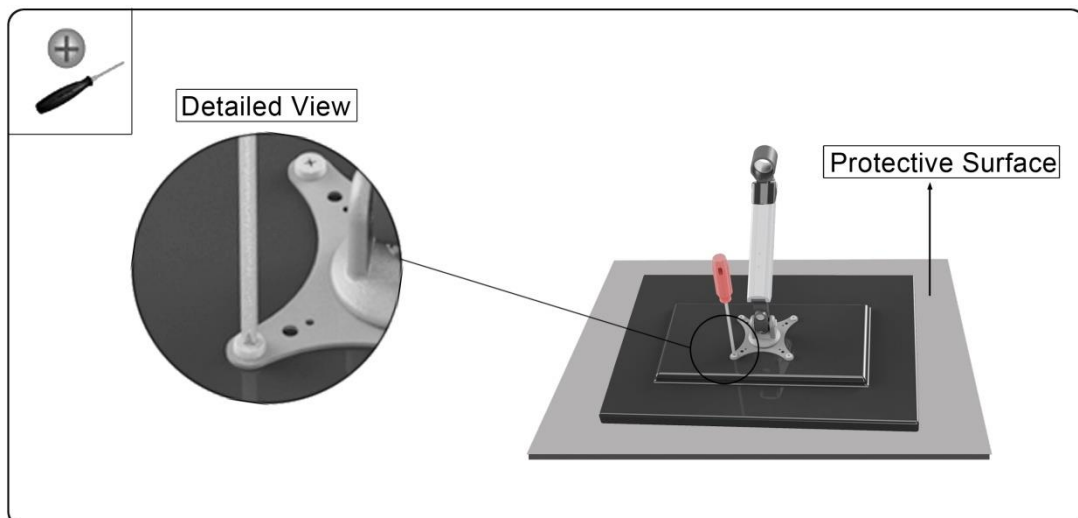

Figure 2-4
5. Using a Phillips screwdriver, tighten the screws until the VESA bracket is firmly attached to the monitor. Do not over tighten the screws. Stop immediately once you encounter resistance (See Figure 2-4).